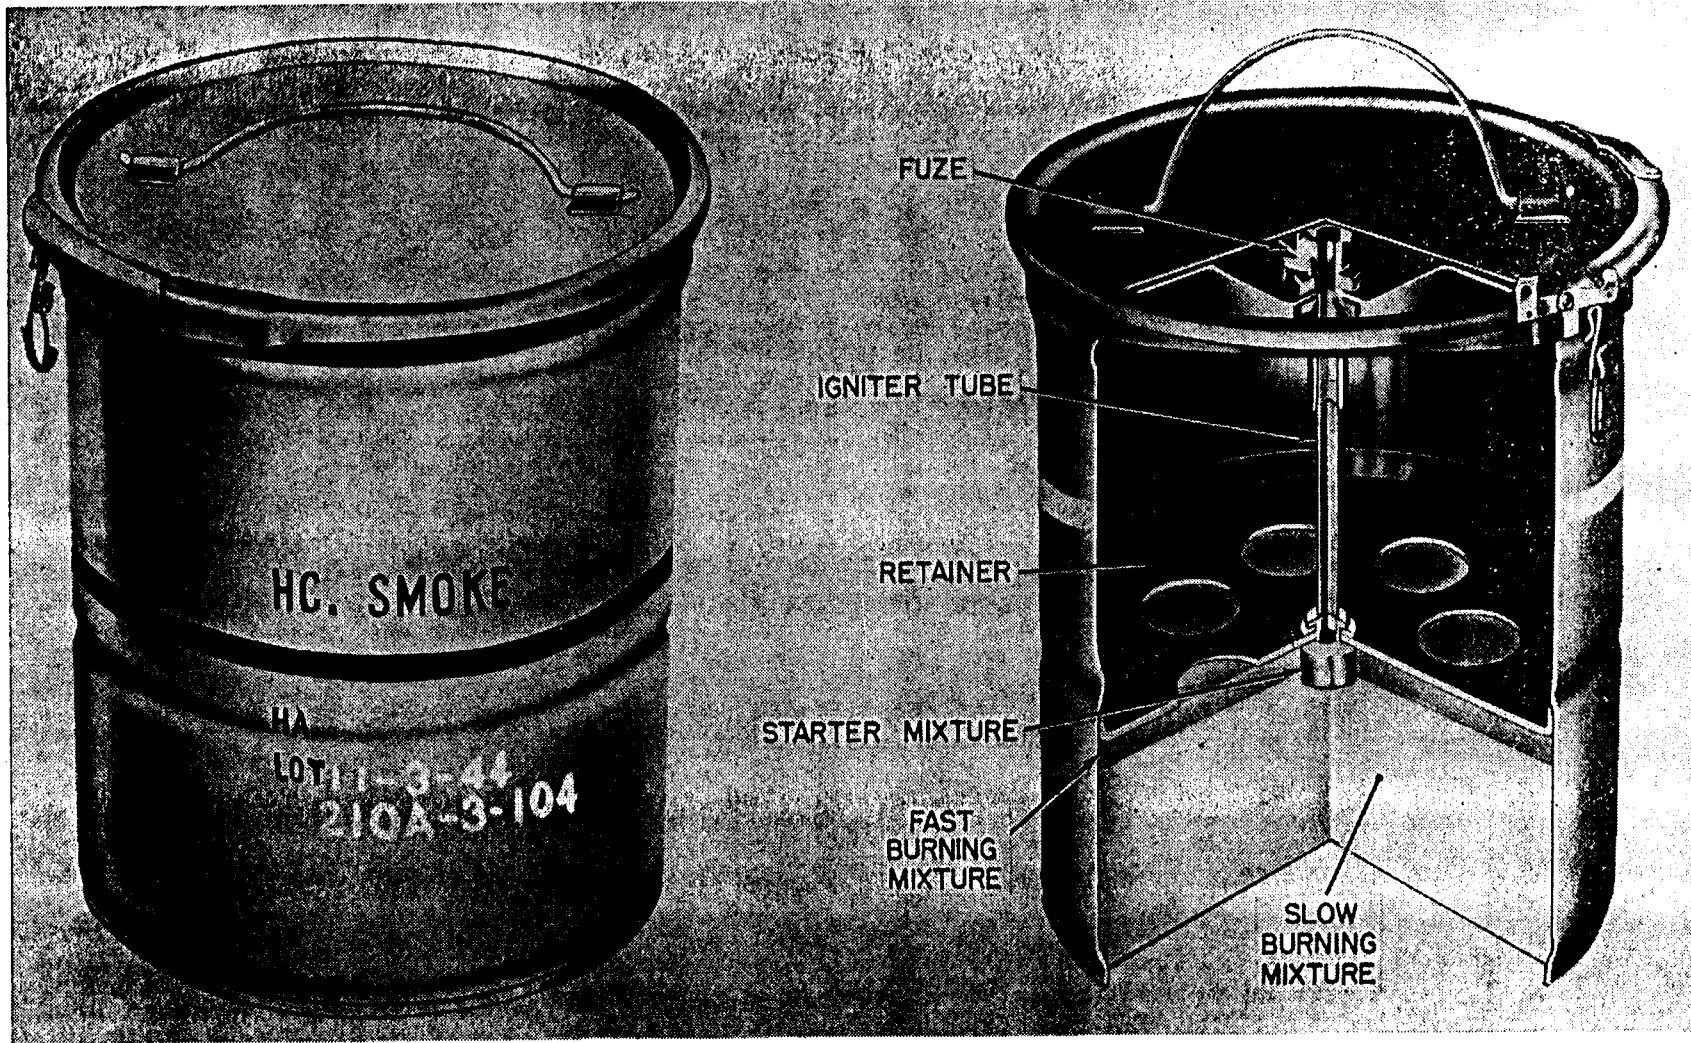

Figure 8. M4A2 HC floating smoke pot.
a. The M4A2 floating smoke pot (fig. 8) is a metal container, 12 inches in diameter by 13 inches high. The lower third of the pot contains 23½ to 27½ pounds of HC smoke mixture. A waterproof outer cover secured to the pot by a quick-release clamp keeps moisture out of the pot and protects the fuze. A steel carrying handle is attached to the outer cover. A dish-shaped inner cover covers the filling and provides a mounting for a fuze adapter. Three vent holes in the